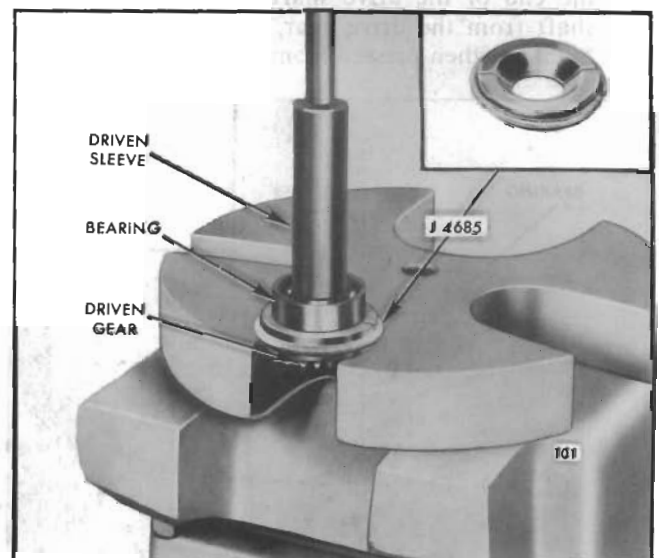

Fig. 12 - Removing Driven Sleeve and Bearing from Driven Gear
- b. Support the driven gear assembly and remover on the bed of an arbor press (Fig. 12). Place a brass rod inside the sleeve, against the end of the driven gear, then press the driven gear from the sleeve and bearing. Catch the driven gear by hand when pressed from the bearing.